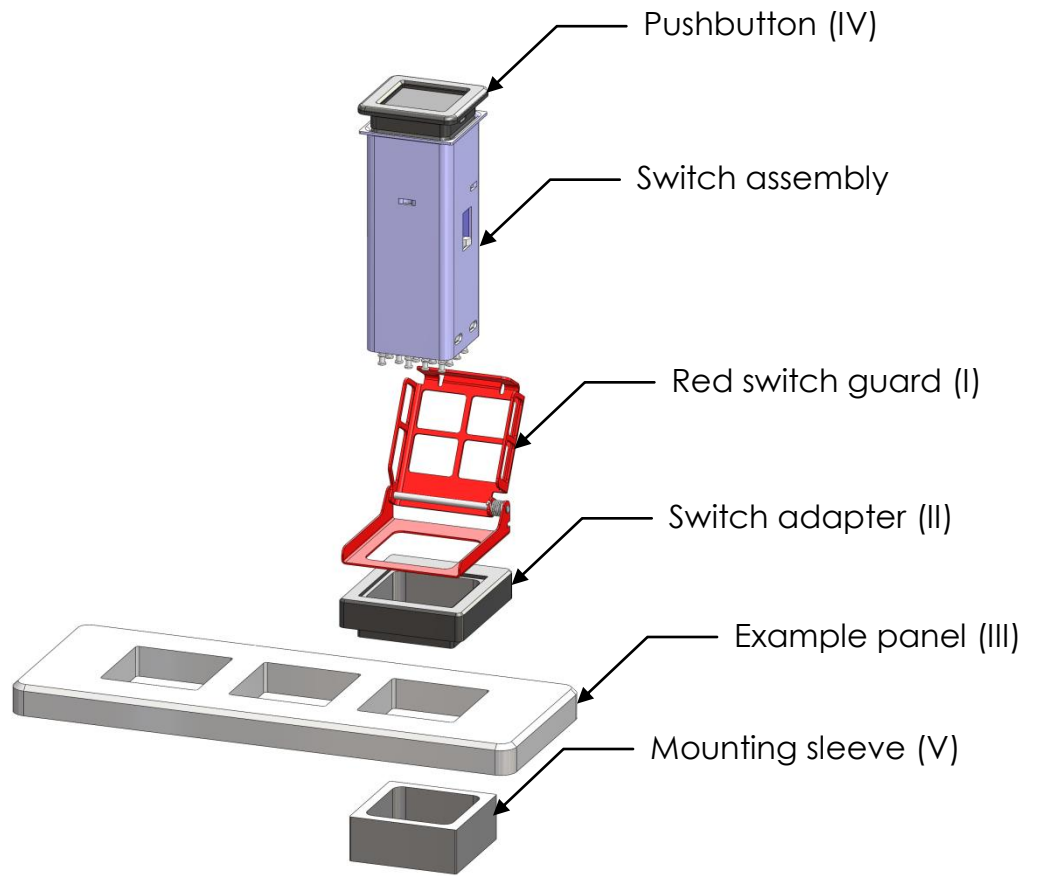

Figure 1: Exploded view for -001
- 3.1. Install pushbutton guard (I) onto switch assembly (Figure 1).
- 3.2. Install switch adaptor (II) onto pushbutton guard (I) and switch assembly (Figure 1).
- 3.3. Install guard, adaptor and switch into panel (III) (Figure 1).
- 3.5. After installed into panel, add mounting sleeve (V) onto back side of panel around switch body (Figure 1).